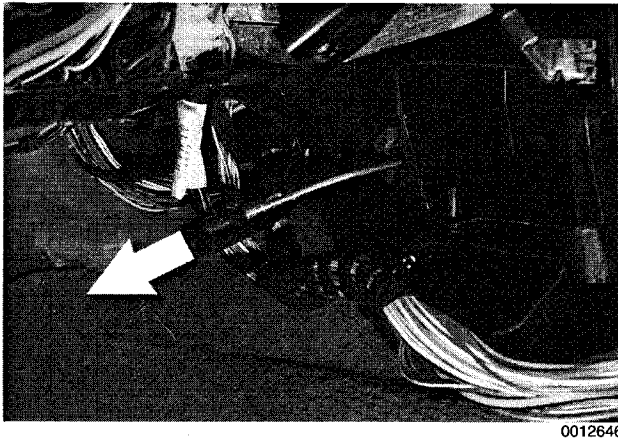

Fig. 49. Pull out evaporator sensor from housing in direction of **arrow**.
3. Disconnect sensor electrical connector from heater box. Pull sensor straight out of heater box. Refer to Fig. 49.